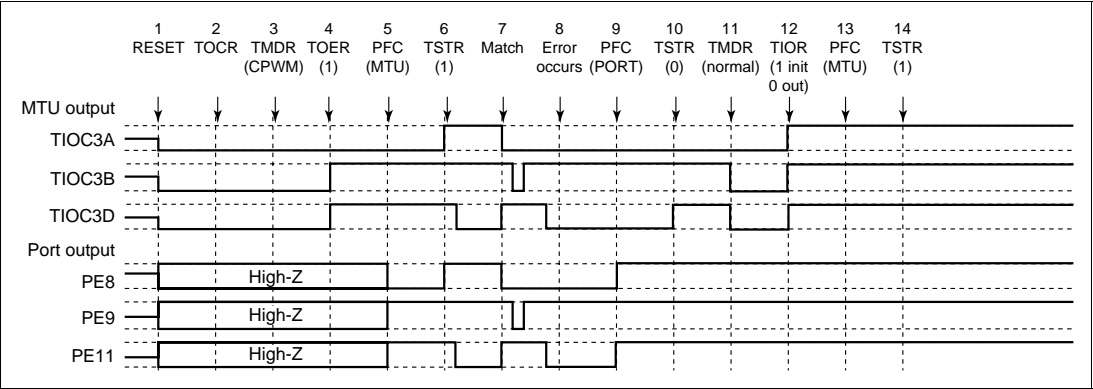

Figure 12.116 Error Occurrence in Complementary PWM Mode, Recovery in Normal Mode
(21) Operation when Error Occurs during Complementary PWM Mode Operation, and Operation is Restarted in Normal Mode: Figure 12.116 shows an explanatory diagram of the case where an error occurs in complementary PWM mode and operation is restarted in normal mode after re-setting.
1 to 10 are the same as in figure 12.116.
- 1 to 10 are the same as in figure 12.116.